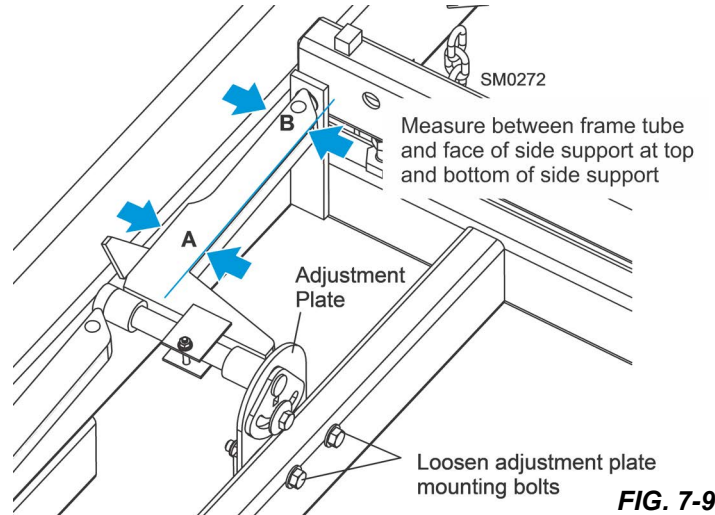

FIG. 7-9
2. Loosen the two adjustment plate mounting bolts. **See Fig. 7-9.**